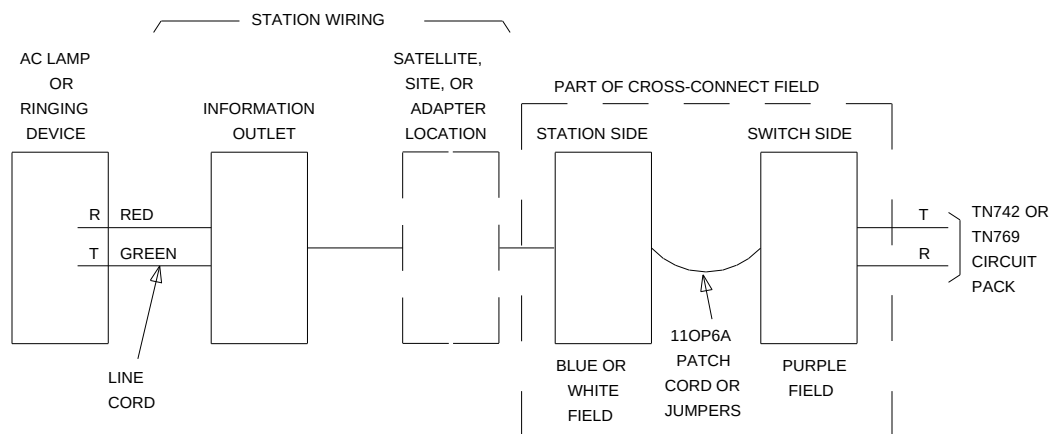

Figure 10-30. Connections for External Ringing or Queue Warning Indicator
Figure 10-30 shows the connections for external ringing, which is provided by a device, such as a gong, chime, or bell, connected to an information outlet. The switch side of the cross-connect field is connected to a TN742 or TN769 analog line circuit pack located in a port carrier. The TN742 or TN769 circuit pack contains eight ports.
4. Connect a 2-pair line cord (modular plug at one end) from the information outlet to the ringing device (Figure 10-30).
5. Connect red (R) and green (T) leads to the ringing device.
Figure 10-30 shows the connections for the queue warning indicator. An ac indicator (lamp) such as a 21C49 is optional for use as a queue warning indication in a Uniform Call Distribution (UCD)/Direct Departmental Calling (DDC) queue. The lamp is connected to an information outlet. The switch side of the cross-connect field is connected to a TN742 or TN769 analog line circuit pack located in a port carrier. The TN742 or TN769 circuit packs each contain eight ports.
4. Connect a 2-pair line cord (modular plug at one end) from the information outlet to the indicator (Figure 10-30).
5. Connect red (R) and green (T) leads to the indicator.